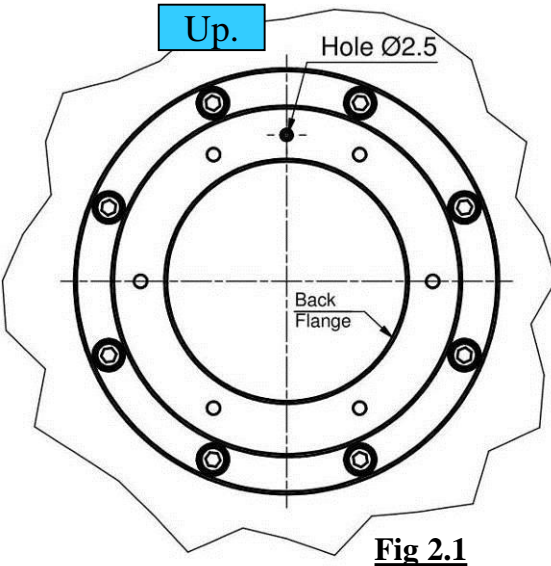
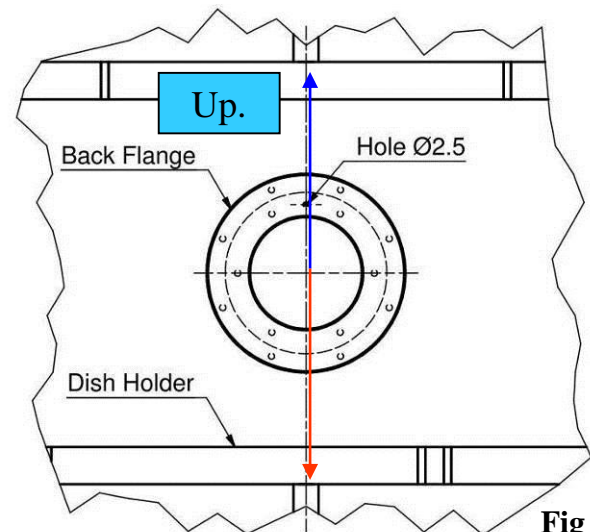
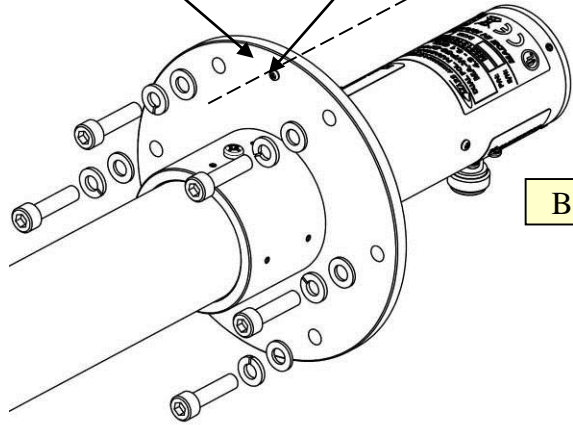

Fig 2.1
Fig 2.2
Fig 7.1
The $\text{Ø}2.5$ hole of Back Flange should be positioned upwards (to upper side of antenna) see Fig 2.1 (Front View) and Fig 2.2. (Rear View).
1. Align Pin of Screw on Feeder Flange with $\text{\O}2.5$ hole of Back Flange (see Fig 2.1, 2.2 from section 2 and Fig 7.1 and 7.2).
2. Insert the Feeder into the hole at the center of the dish and fasten to back Flange. Use the screws and washers from Kit #2 as shows Fig 7.1 - 7.3. Tighten the screws.